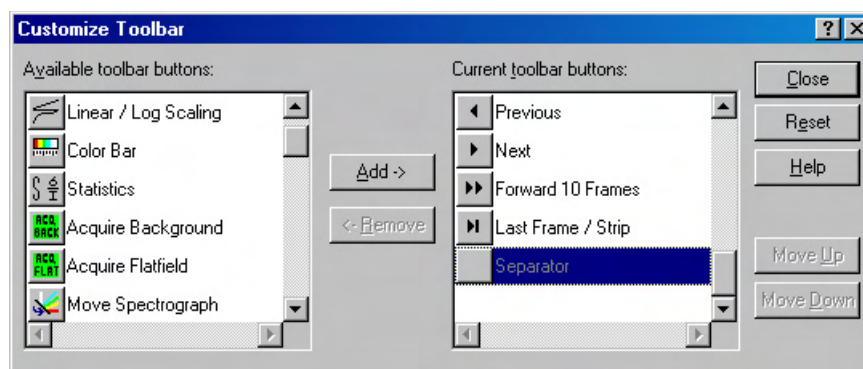

Figure 193. Customize Toolbar dialog box
Although the **Custom Toolbar** defaults with the buttons shown in Figure 192, many additional buttons are in fact available and can be added to the button using the Customize Toolbar dialog box (Figure 193). Buttons can be added or removed at any time and the new configuration will be saved when the dialog box is closed.
2. Referring to Figure 193, note that the buttons available for placement on the **Custom Toolbar** are listed on the left. Buttons already on the toolbar are on the right.
2. Referring to Figure 193, note that buttons already on the toolbar are listed on the right. Available but unused buttons are listed on the left.